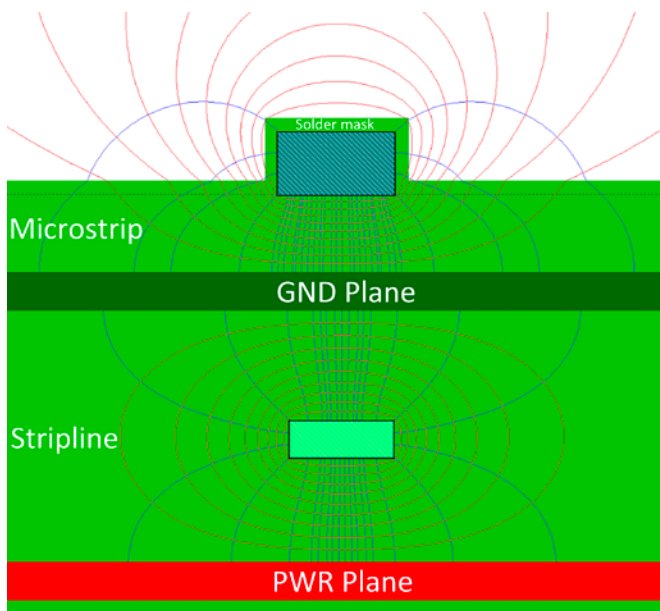

Figure 1: Microstrip EM fields (top) and stripline EM fields (bottom).
Electromagnetic (EM) energy propagates through the dielectric materials of a multi-layer PCB guided by the signal traces between the planes, for inner stripline layers (Figure 1), but it acts slightly differently on the outer microstrip layers. Microstrip layers generally have a solid ground reference plane on one side but allow radiation from the boundless surface into the air. A well-thought-out routing strategy can avoid up to 10 dB of radiation from the substrate. Embedding signals between the planes reduces these emissions, and susceptibility to radiation, as well as providing electrostatic discharge protection. So, not only can